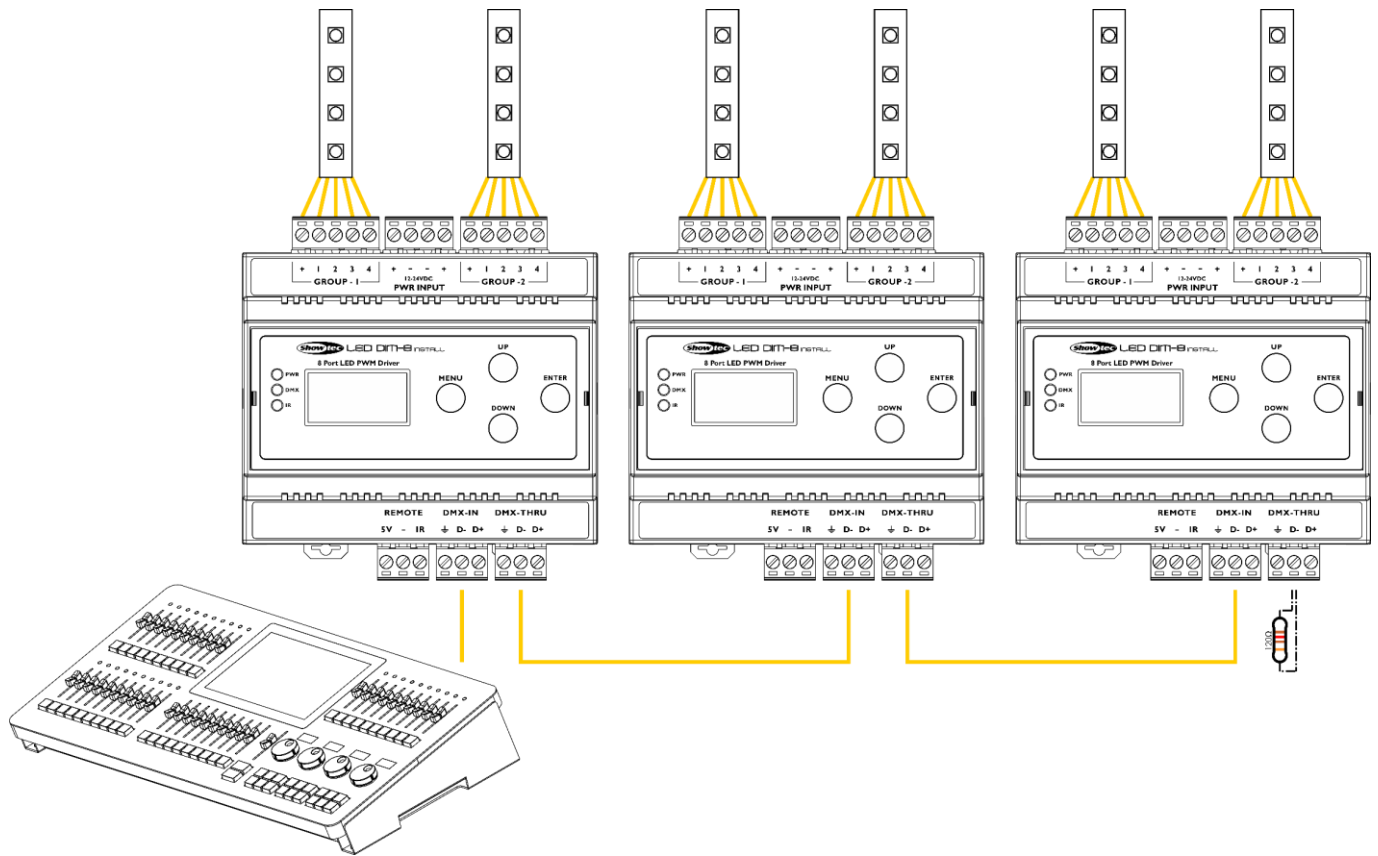

Fig. 13
- 05) Repeat steps 3–4 to connect all devices in a daisy-chain as shown in Fig. 13 on page 17.